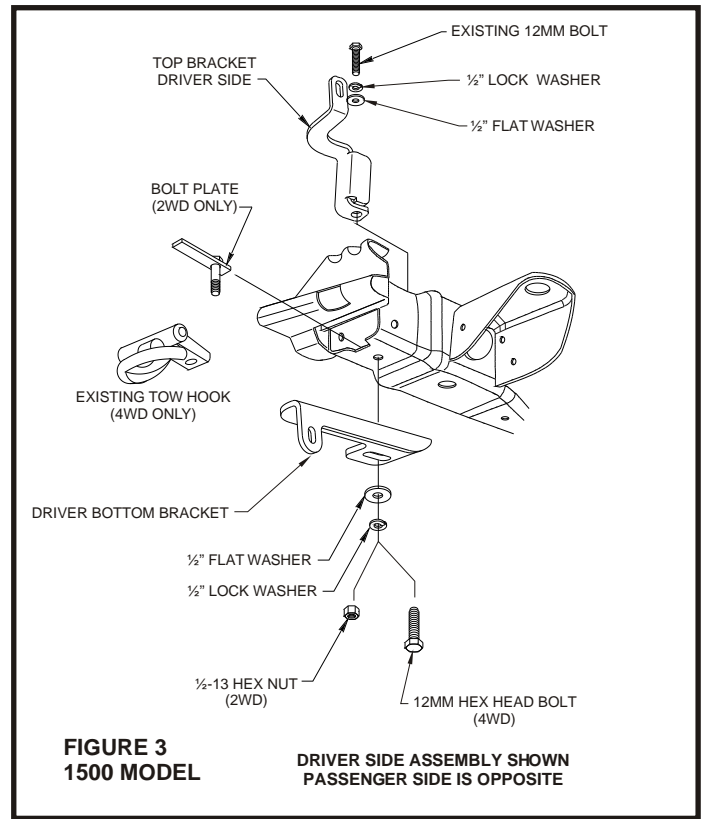

FIGURE 3
side of bumper), then replace with top mount brackets, (2) 1/2" lock washer and existing 12mm bolts previously removed. See Figures 3 and 4.
- STEP 8. To install bottom brackets on 1500 models, remove 12mm bolts from bottom side of frame (4X4 only). Position bottom bracket as shown and reinstall 12mm bolts (2)1/2" flat washer, (2)1/2" lock washer finger tight, for 2WD use the bolt plates (2)1/2" flat washers, (2)1/2" lock washers, (2)1/2" hex nuts provided. To install bottom brackets on 1500HD, 2500, 2500HD and 3500HD remove the outer 12mm tow hook bolts. Insert the bolt plate into the frame from the front of the vehicle. Attach brackets using (2) 1/2" flat washers, (2) 1/2" lock washers and (2) 1/2" hex nuts to bolt plate and use existing 12mm bolts, (2) 1/2" lock washers and (2) 1/2" lock washers. See Figures 3 and 4.